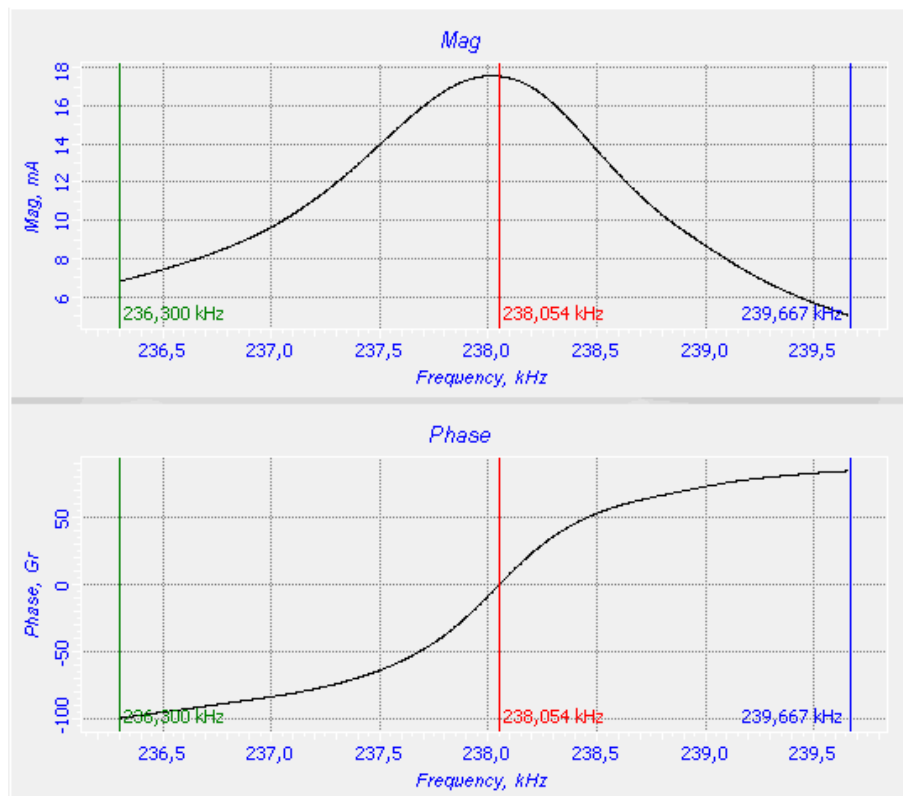

Fig. 8-4. Frequency dependencies of the signals **Mag** and **Phase**
- Plotting frequency responses of the signals **Mag** and **Phase** in the range around the resonance frequency (see Fig. 8-4).